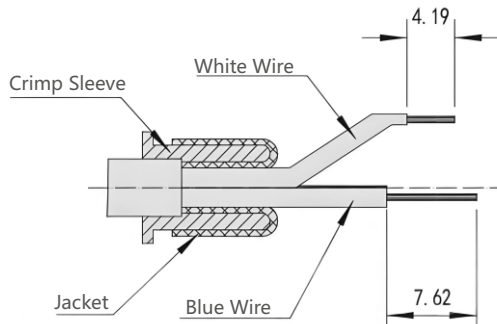

Figure3.8
- ③ Slide the shielding crimp sleeve onto the cable jacket. As shown in Figure 3.8, fit the shielding layer over the shielding crimp sleeve, then strip the internal wires as shown in the figure (you can cut off the filler near the shielding layer).